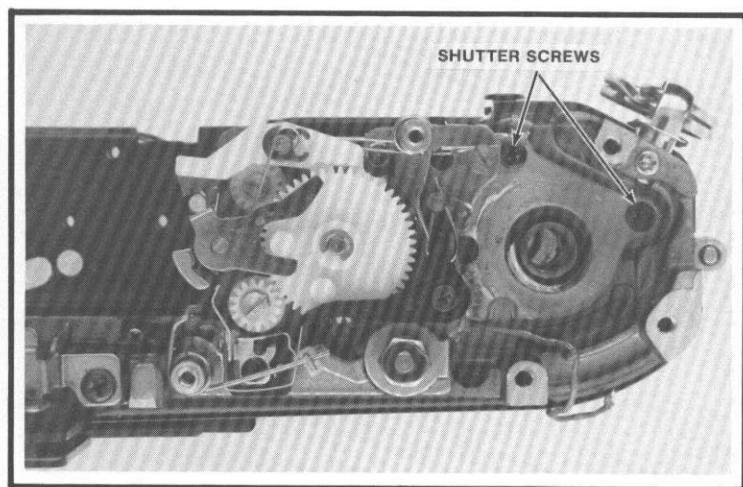

Figure 70
14. Remove the 2 shutter-retaining screws at the winding-shaft end, Fig. 70.